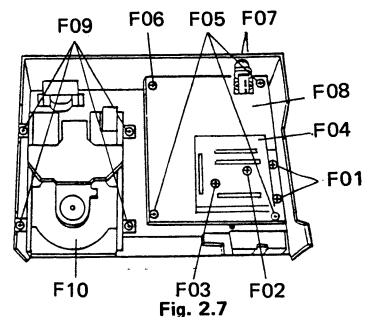

Fig. 2.7
- (1) Refer to Fig. 2.7.
- (2) Remove the Front Panel Ass'y referred to in item 2.3.
- (3) Remove F01, F02, F03, F04 (P.C.B. Holder), F05, F06 and F07, then F08 (Main P.C.B. Ass'y).
- (4) Remove F09, then F10 (Disc Mechanism Ass'y).